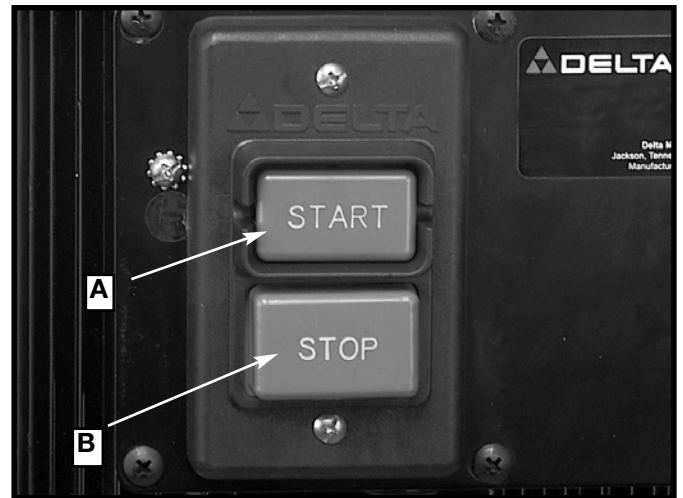

Fig. 14
1. The on/off button (A) Fig. 14 is located on the motor housing. To turn the machine “ON”, push the “START” button (A).
2. To turn the machine “OFF”, push the “STOP” button (B).